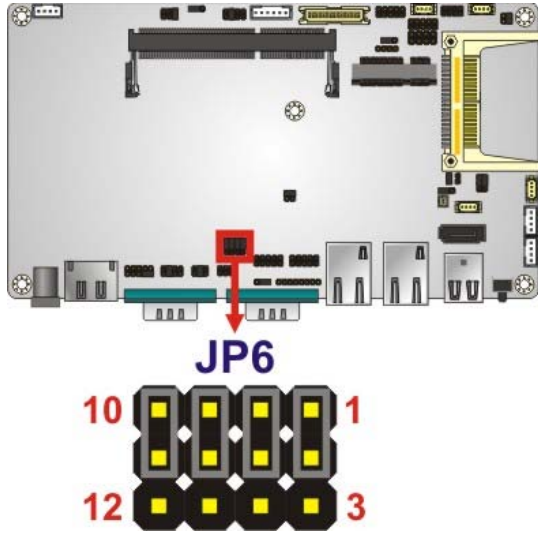

Figure 3-12: COM3 RS-232/422/485 Serial Port Select Jumper Location
- Jumper Location:** See **Figure 3-12**
The COM3 RS-232/422/485 Serial Port Select jumper location is shown in **Figure 3-12**.